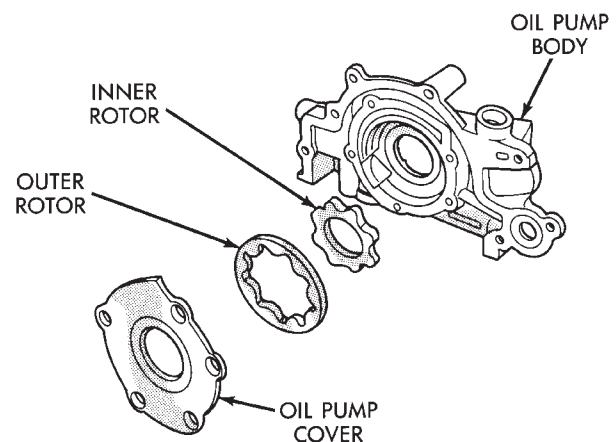

Fig. 95 Checking Oil Pump Cover Flatness
(1) Clean all parts thoroughly. Mating surface of the oil pump should be smooth. Replace pump cover if scratched or grooved.
(2) Lay a straightedge across the pump cover surface (Fig. 95). If a 0.076 mm (0.003 inch.) feeler gauge can be inserted between cover and straight edge, cover should be replaced.